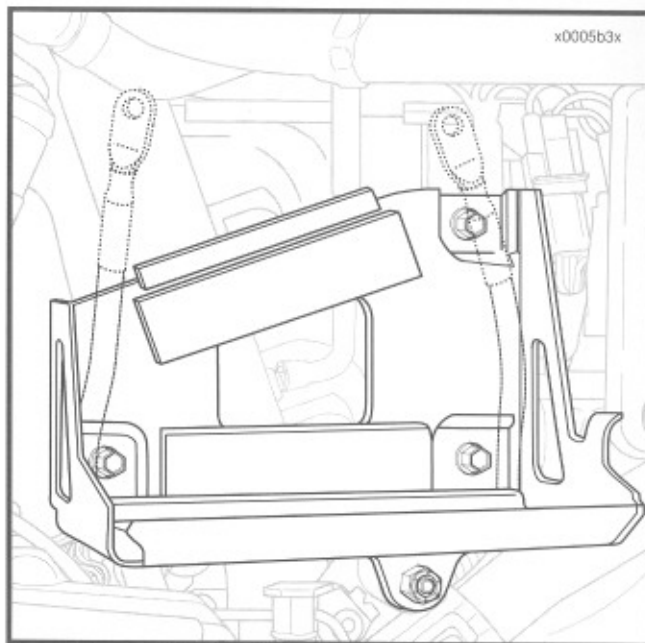

Figure 3-48. Install Battery Tray (Left Side View)
9. See Figure 3-48. Position battery tray onto motorcycle fitting tab at bottom of tray over frame-mounted rubber mount stud. Secure three corners of battery tray to brackets on oil tank using bolts and washers. Position wire form retainer for positive battery cable under front bolt. Install locknut on frame-mounted rubber mount stud. Tighten three bolts to 12-15 ft-lbs (16-20 Nm) torque. Tighten locknut on rubber mount stud to 36-60 in lbs (4.1-6.8 Nm) torque.